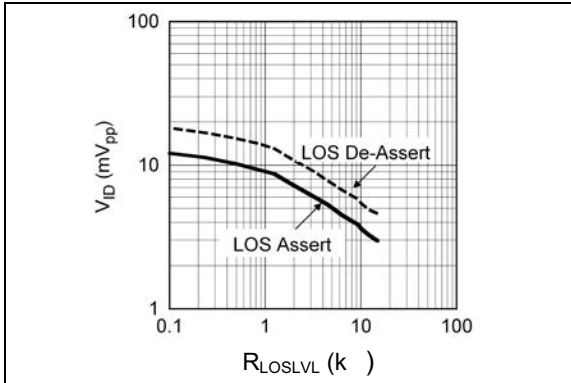

FIGURE 2-1: V_{ID} to Assert/De-Assert LOS vs. R_{LOSLVL} .
- 5:** See Figure 2-1 for a graph showing how to choose a particular R_{LOSLVL} for a particular LOS assert and its associated de-assert amplitude.